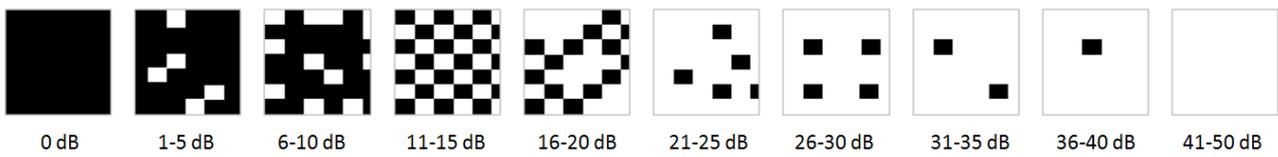

Fig. 66 – Symbols used for the grayscale map and related dB intervals
8. Grayscale VF map (see Fig. 66 for the gray tone symbols adopted), using the Standard Perimetry display convention;